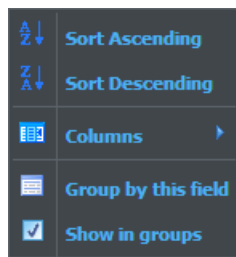

Fig. 10-220: Service Page - Column Drop-down Menu Header Menu
- 2 Open the column drop-down menu, see Figure 10-220.